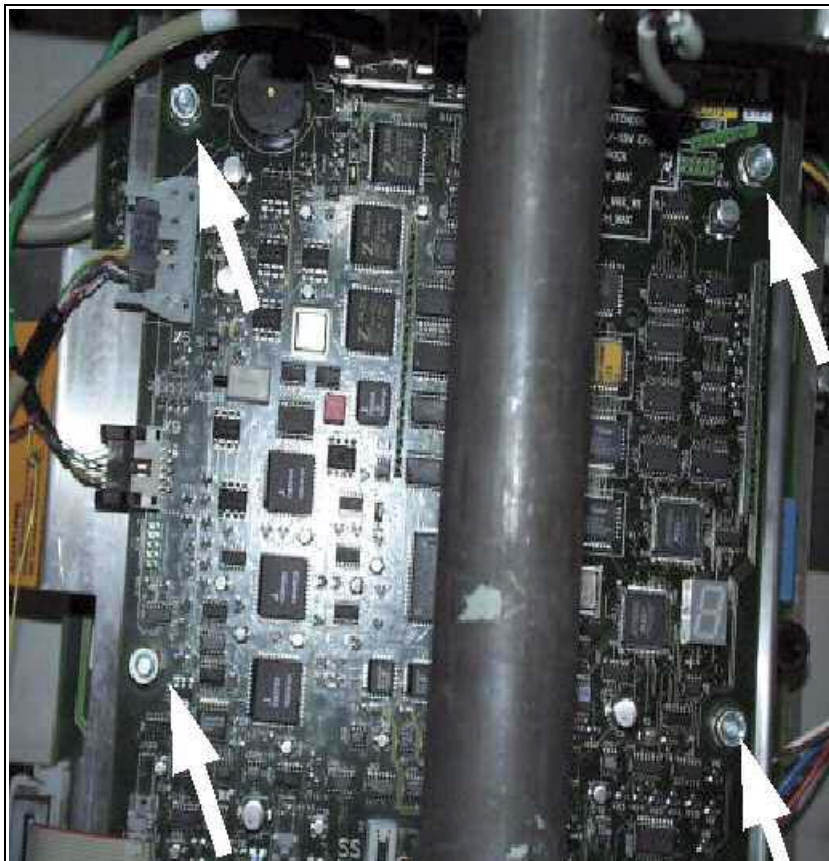

Fig. 14: D1
- Remove the 4 upper mounting screws of D1, leave the washers on D1 (Fig. 14 / p. 22).